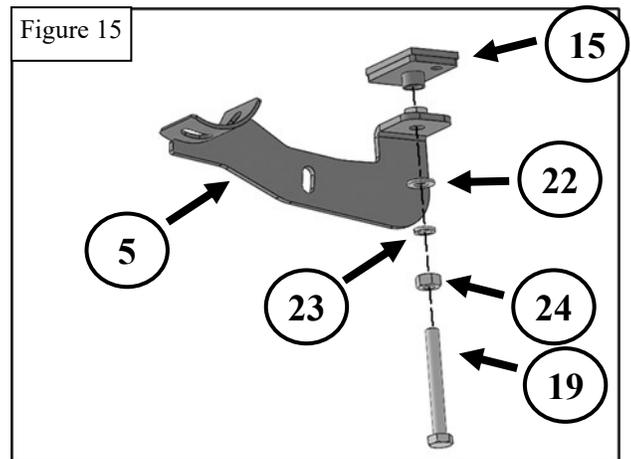

Figure 15
16. **COMPRESSION PAD INSTALLATION:** use the configuration of the M10 hardware shown in **Figure 15**. Thread one M10 hex nut onto a long M10 hex bolt (Item 19), then place one M10 lock washer (Item 32) and one M10 flat washer (Item 31) onto the M10 hex bolt.
(Fig 15) Follow link for Center Support Pad.